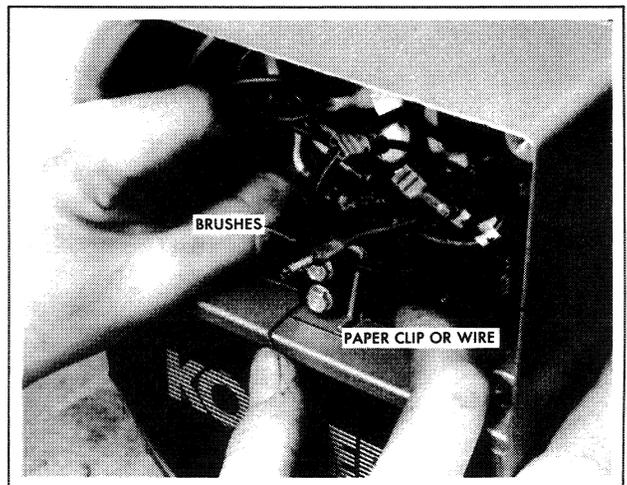

Figure 2-14. Raising Brushes
5. Raise brushes in holder, pushing leads upward in slots. Retain brushes in holder inserting a length of wire or paper clip. Figure 2-14.